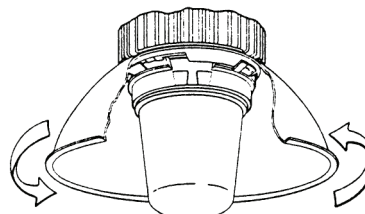

FIGURE 6
5. The reflector can be removed by rotating counterclockwise until the three reflector tabs are free of the captivated bosses. See Figure 6.